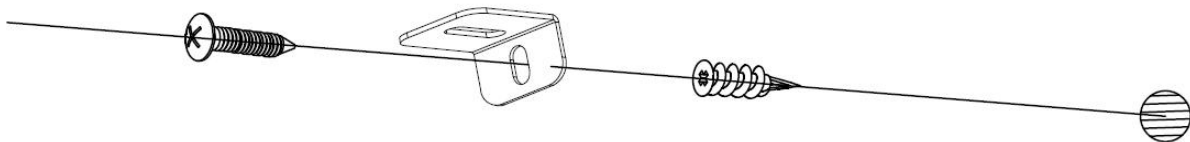

Fig 4-3
C. Install the plastic anchor **(C)** into the drywall, then install the screw **B** (supplied) into the hole of the **L-bracket** into the wall anchor to secure the fireplace from coming off the hooks. **(Fig 4-3)**